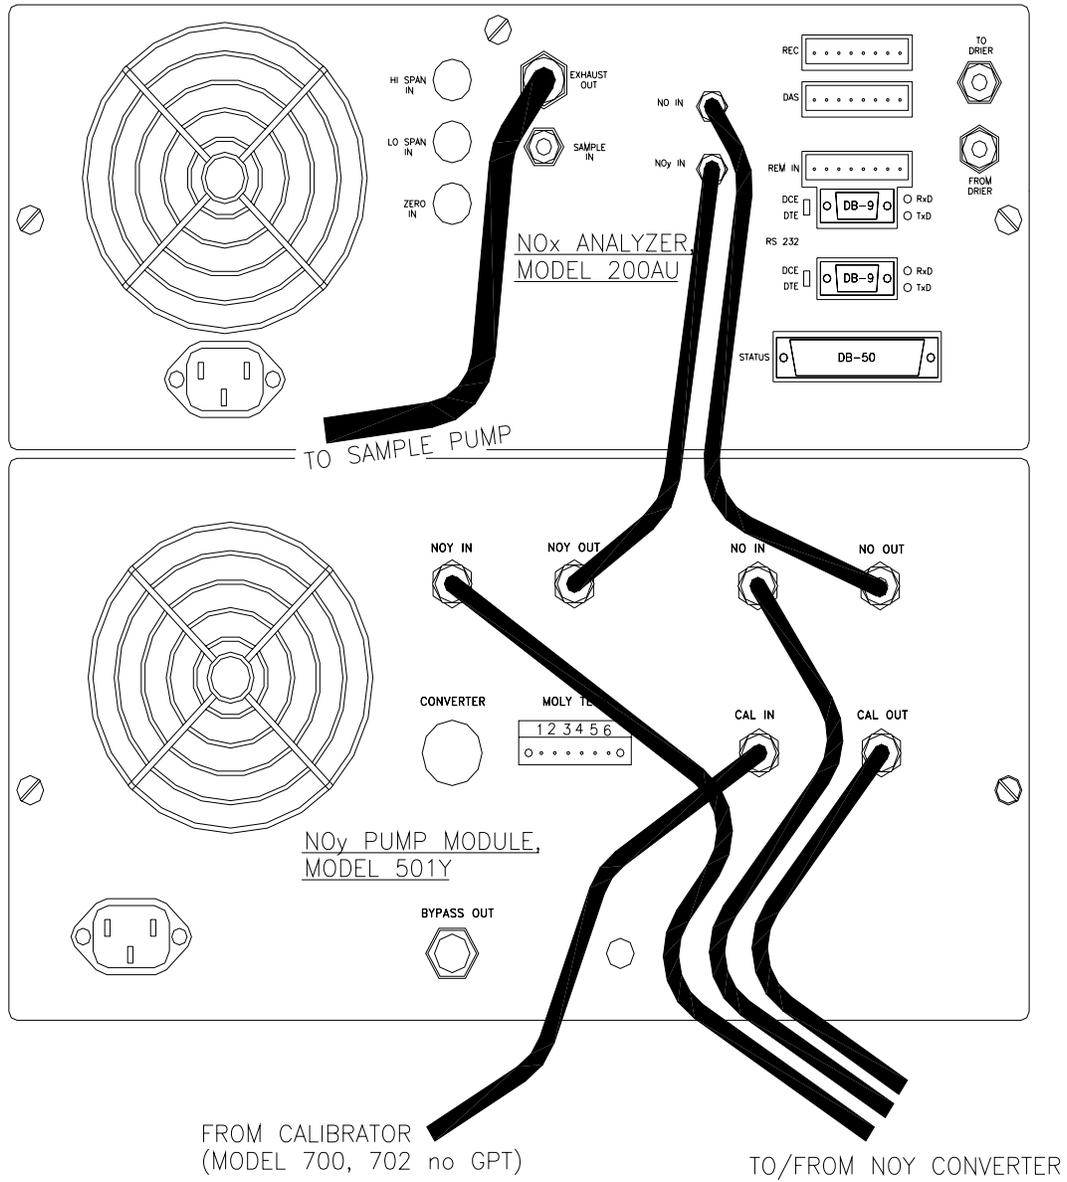

Figure 1.1 - Rear Panel Pneumatic Connections
4. Connect the electrical/pneumatic cable fittings to the rear of the Bypass Pump Chassis. Use the tags on each tube and Figure 1.1 to match up the correct tube with the rear panel bulkhead fitting.